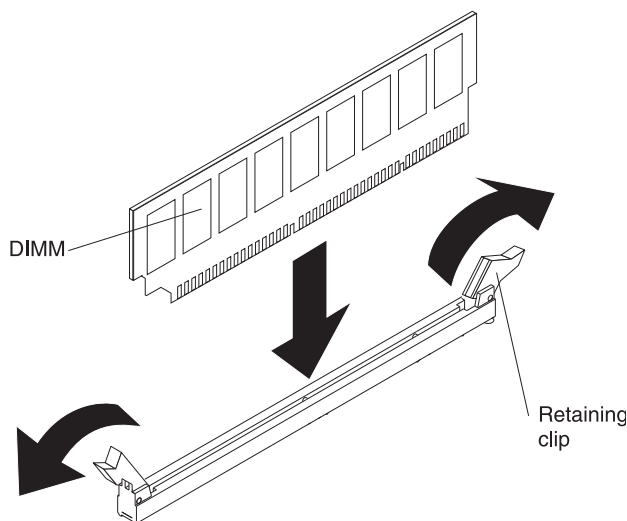

Figure 81. Installing the DIMM
5. Insert the DIMM into the connector by aligning the edges of the DIMM with the slots at the ends of the DIMM connector, as shown in Figure 81. Firmly press the DIMM straight down into the connector by applying pressure on both ends of the DIMM simultaneously. The retaining clips snap into the locked position when the DIMM is firmly seated in the connector.